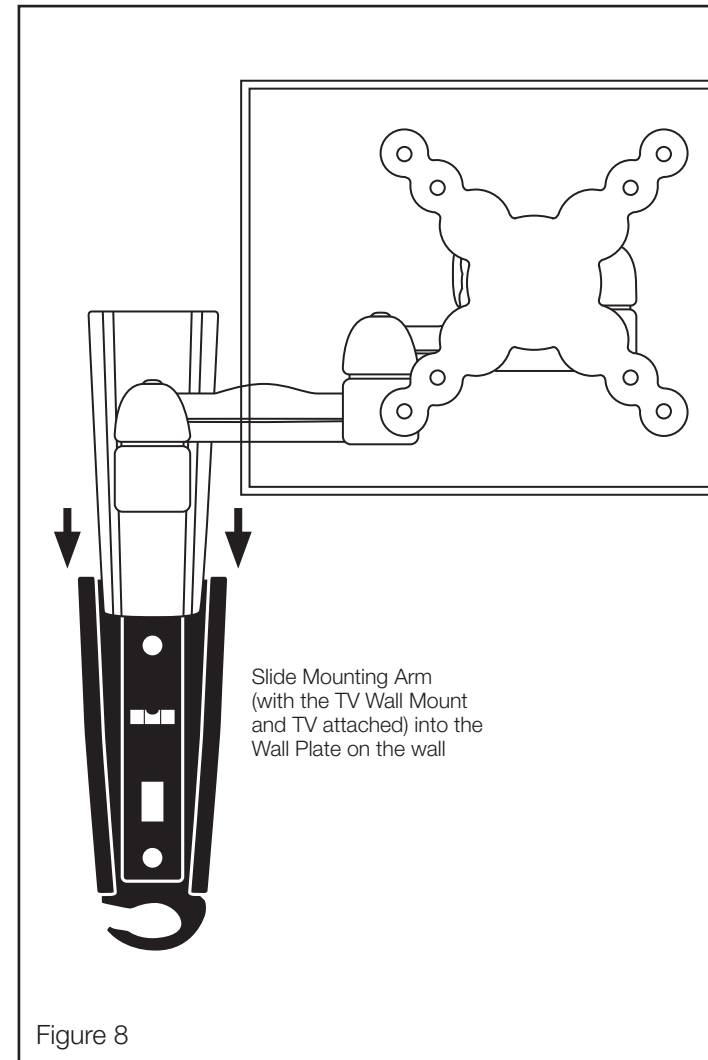

Figure 8
2. Slide the mounting arm down (with the TV Wall Mount and TV attached) into the Wall Plate on the wall (see Figure 8). You should hear a 'click' sound indicating that the mounting arm is secure in position (do not release your grip on your TV until your mounting arm has securely attached to your Wall Plate).